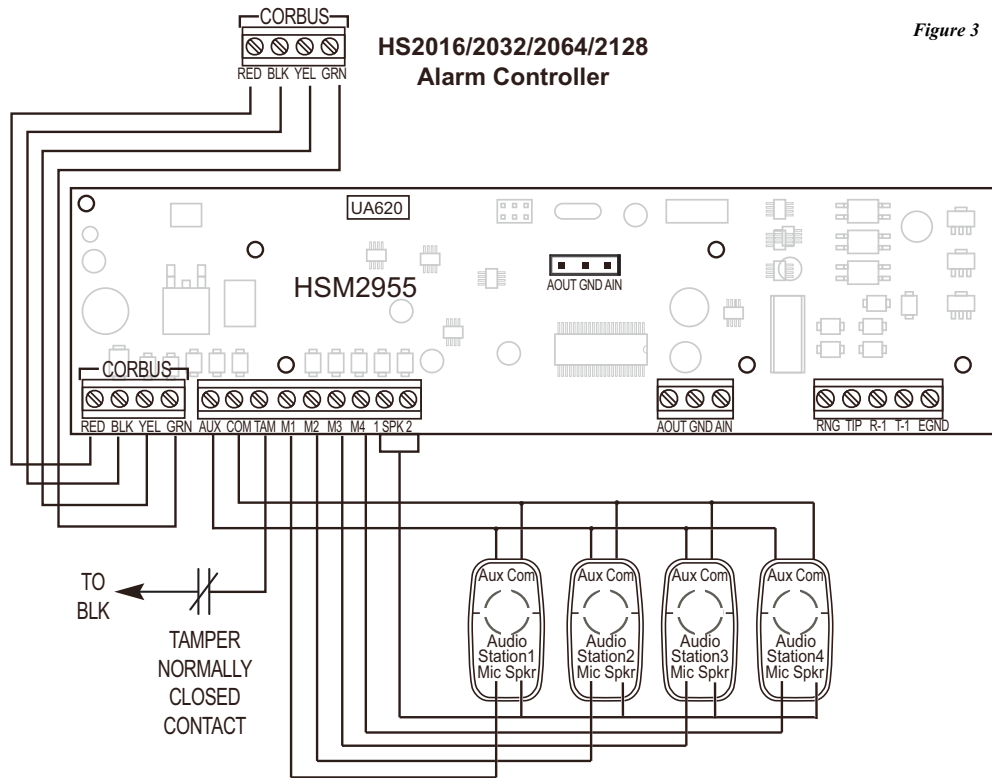

Figure 3
1. Route wiring as required (see Figure 3).